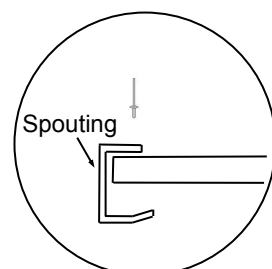

fig.4
- Place spouting in position and rivet to Barge Flashings at each end and rivet to roof sheets (1 rivet per 1 sheet) (**fig.4**).